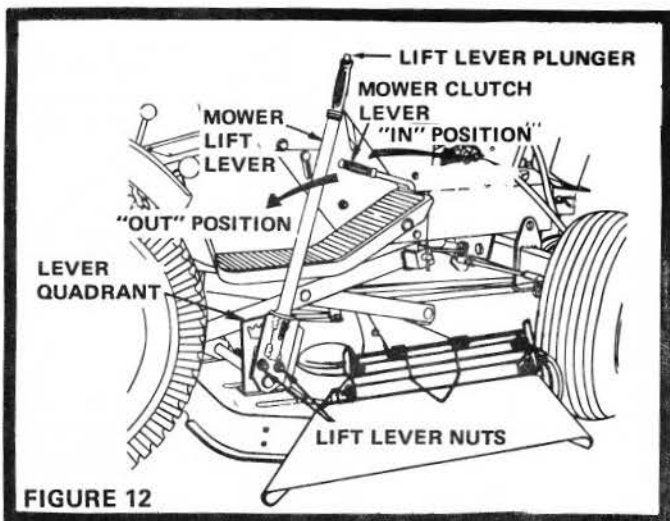
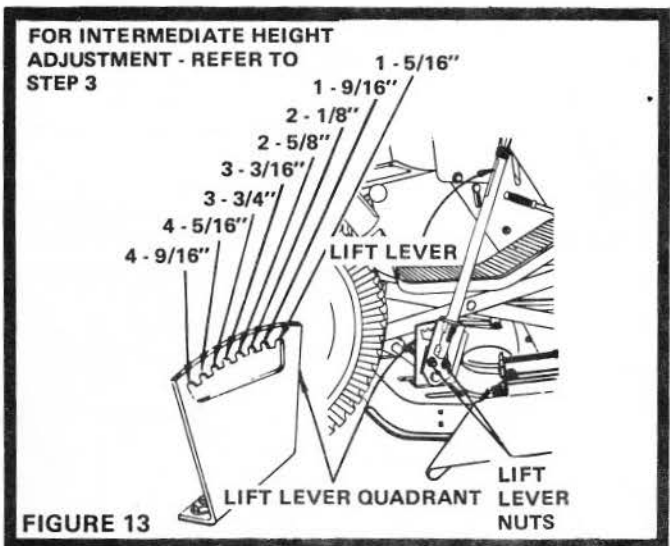

FIGURE 12
FIGURE 13
NOTE: Place Gear Shift Lever in neutral and unlock Parking Brake. Depress tractor clutch pedal and disengage Mower Clutch Lever (Fig. 12). (Tractor will not start if clutch pedal is not depressed and Mower Clutch Lever is in "IN" position). Also, tractor will not start if Snubber Pull Rod is not adjusted properly. Refer to step 7, page 4.
2. Start mowing in a low range and increase ground speed as conditions will permit. Average cutting height is approximately 2 - 1/2 to 2 - 3/4 inches. Height of cut can be adjusted by means of the Lift Lever (Fig. 13). Moving the lever forward lowers the mower. Moving it backwards raises the mower. The lever latch is actuated by depressing the latch button at the top of the lever handle (Fig. 12). Each notch changes the height of cut approximately 1/2 inch.
3. Should some intermediate height be desired, loosen the two Nuts at the bottom of the Lift Lever (Fig. 13). Rotate the Lever forward or backward relative to the shaft. Forward movement will raise the height of cut. Rearward movement will lower the height of cut. This adjustment will raise or lower the cutting range approximately 1/2 Inch - the equivalent of one notch on the Lift Lever Quadrant. Retighten Lift Lever Nuts securely.
6. Lower mower by means of the Lift Lever (Fig. 12), to its extreme low position.